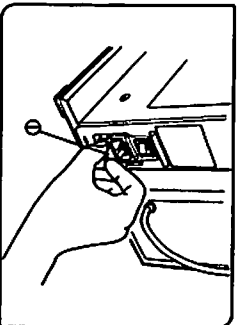

Fig. 20
14 Fuse Replacement (Figs. 20, 21)
1. Remove the fuse holder ① by squeezing it at both sides and pulling outward. (Fig. 20)